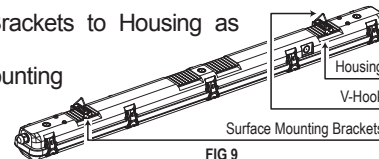

FIG 9
1. Screw Surface Mounting Brackets to Housing as shown in Fig. 9.
2. Loop V-Hook on Surface Mounting Bracket as shown in Fig. 9.
3. For suspended Housing, connect each V-Hook to two equal lengths of chain (not supplied) and/or appropriate hardware (by others) suitable for mounting surface. Chains must be suitable to support four (4) times the weight of the fixture.